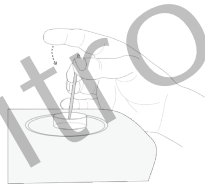

Figure 3. Cover the open end of the straw with index finger
- 5) Immediately cover the open end of the straw with your index finger (refer to Figure 3). The medium will flow out from the straw as a result of the increased pressure of the warming air inside the straw. If the medium remains in the straw, use a 10 µL micropipette to expel air into the wide end of the straw to eject the liquid.